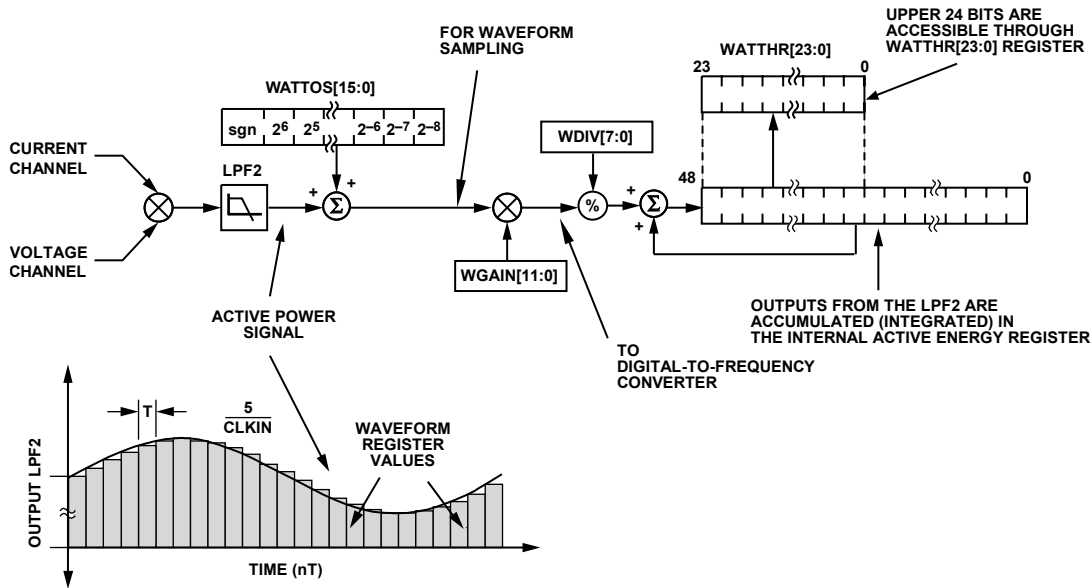

Figure 52. Active Energy Calculation
Figure 52 shows the signal processing chain for the active power calculation in the ADE7566/ADE7569. As explained previously, the active power is calculated by filtering the output of the multiplier with a low-pass filter. Note that when reading the waveform samples from the output of LPF2, the gain of the active energy can be adjusted by using the multiplier and watt gain register (WGAIN[11:0]). The gain is adjusted by writing a twos complement 12-bit word to the watt gain register. Equation 12 shows how the gain adjustment is related to the contents of the watt gain register.
The discrete time sample period (T) for the accumulation register in the ADE7566/ADE7569 is 1.22 μ s (5/MCLK). In addition to calculating the energy, this integration removes any sinusoidal components that may be in the active power signal. Figure 52 shows this discrete time integration or accumulation.
The output of the multiplier is divided by the value in the WDIV register. If the value in the WDIV register is equal to 0, the internal active energy register is divided by 1. WDIV is an 8-bit unsigned register. After dividing by WDIV, the active energy is accumulated in a 49-bit internal energy accumulation register. The upper 24 bits of this register are accessible through a read to the active energy register (WATTHR[23:0]). A read to the RWATTHR register returns the content of the WATTHR register, and the upper 24 bits of the internal register are cleared. As shown in Figure 52, the active power signal is accumulated in an internal 49-bit signed register. The active power signal can be read from the waveform register by setting the WAVMODE Register (0x0D) and setting the WFSM bit in the Interrupt Enable Register 3 SFR (MIRQENH, 0xDB). Like the current and voltage channels waveform sampling modes, the waveform date is available at sample rates of 27.9 kSPS, 14 kSPS, 7 kSPS, or 3.5 kSPS.